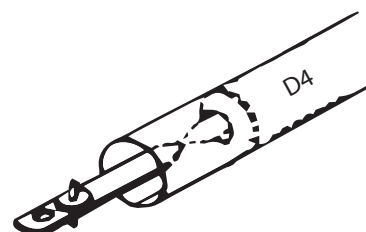

FIG 7
2) It is important that the balances used are suitable for the weight of the sash. The size of balance you have (D4 or D6) will be printed on the tube (Fig 7).